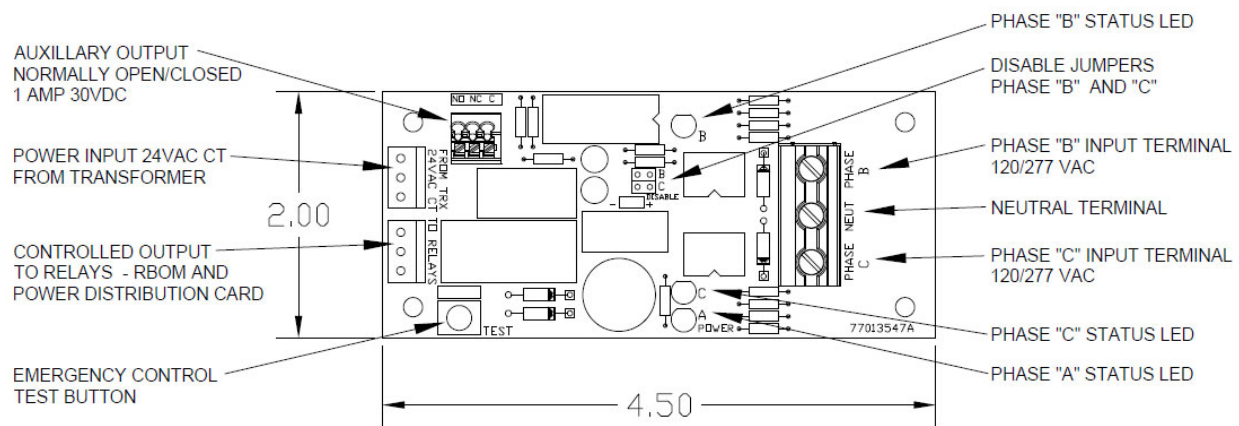

Figure 10 – Phase Monitoring Module
- v. Phase "B" & "C" unswitched normal power will connect to the PMM terminals, along with a power neutral. (Figure 10)
- vi. Verify the disable jumpers are removed for Phase "B" & "C" operation if applicable. (Figure 10)
- Cycle each Phase and ensure that PMM triggers the emergency loads when power is lost on any phase. All Relays should fire into the ON, OFF, or remain in the current state as indicated by their respective RBOM jumpers. - Verify that the A, B, & C phase status LED's on the PMM emulate panel operation. (Figure 10)
- Use Emergency Control Test Button (located on Phase Monitor Module) to momentarily force Emergency operation. Note that when using the Test Button or Remote Testing switch, the power to the CPU & LightSync Devices will remain on. (Figure 10)